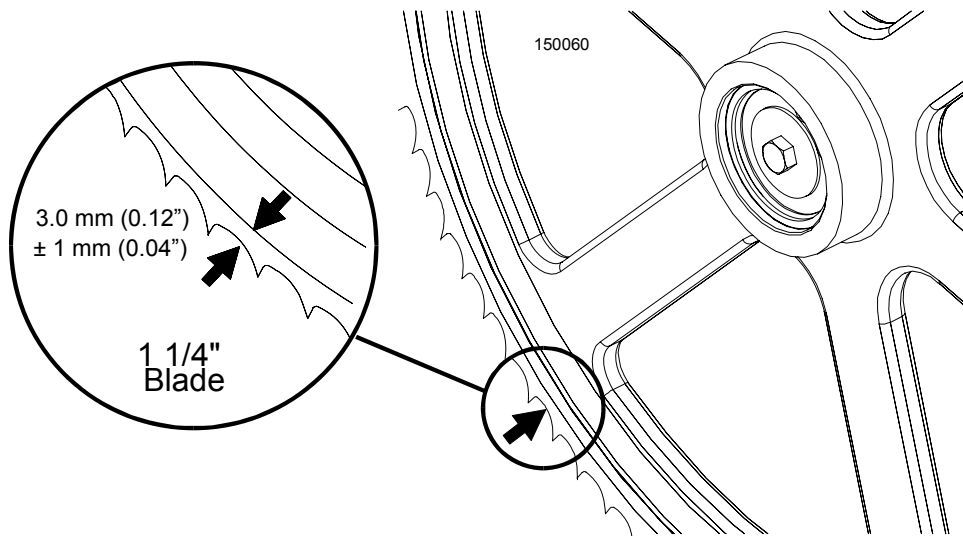

FIG. 4-1
**See Figure 4-1.** The blade wheels should be adjusted so that the gullet of 1 1/4" blades ride 1/8" (3 mm) out from the front edge of the wheels ( $\pm 1/26$  [1 mm]). The gullet of 1 1/2" blades should ride 3/16" (4.5 mm) from the front edge of the wheels ( $\pm 1/26$  [1 mm]). Do not let the teeth ride on the wheels.